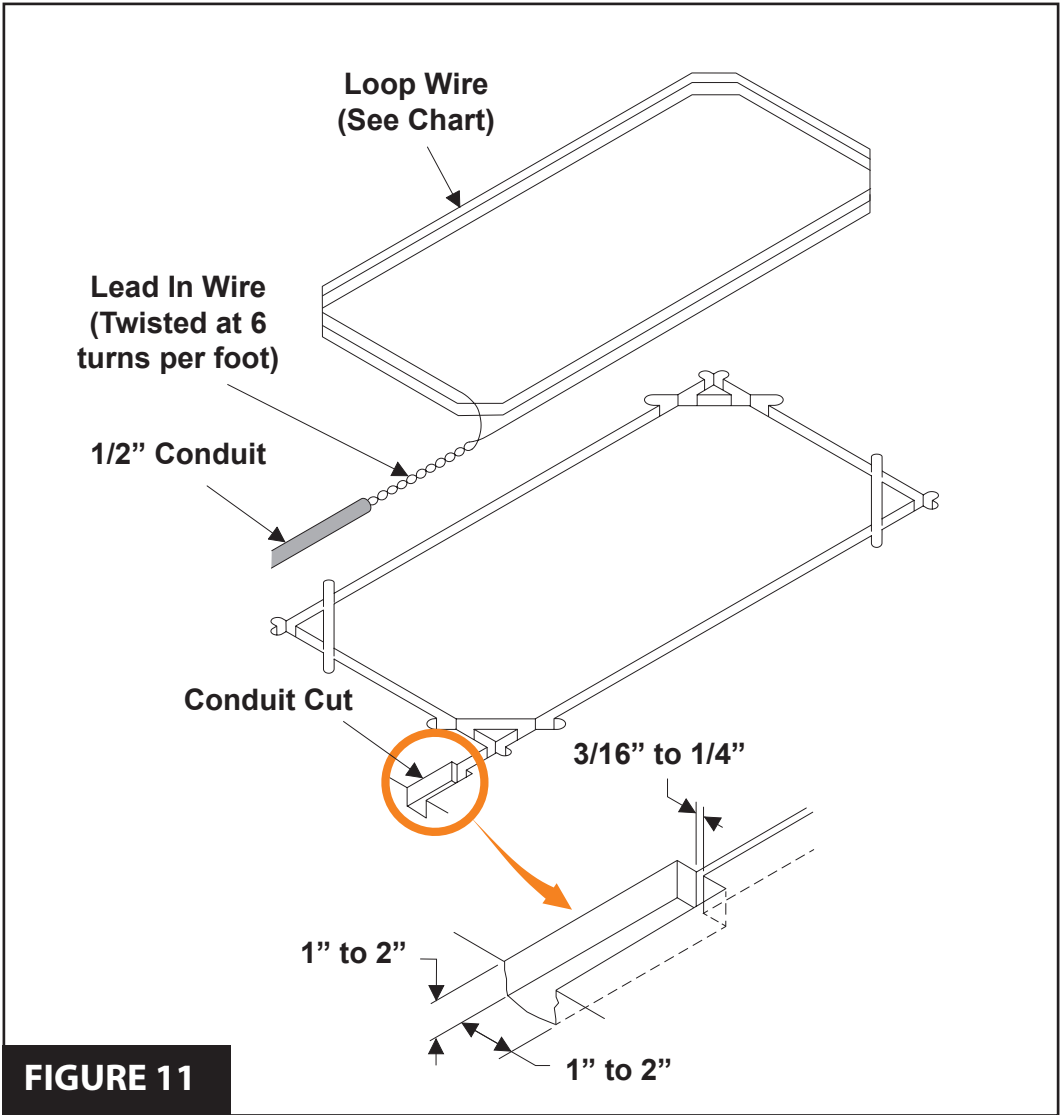

FIGURE 11
- 2. Cut the required groove at the locations laid out according to the diagram below (**Figure 11**).